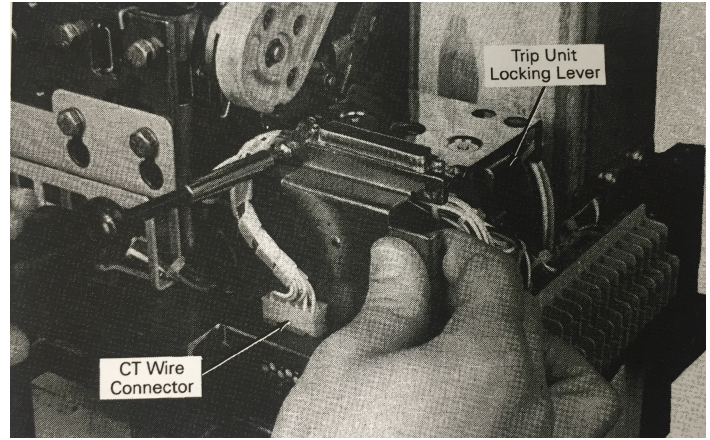

Figure 4. Removing the screws on the trip unit riser bracket.
4. Remove the four Phillips-head screws on the trip unit riser bracket, as illustrated in Figure 4. Keep the screws for installation of the Auxiliary Switch Module, but discard the bracket. A new bracket is included as part of the kit.
5. Unplug the white connector for the CT wire harness, shown in Figure 4 in front of the riser bracket.